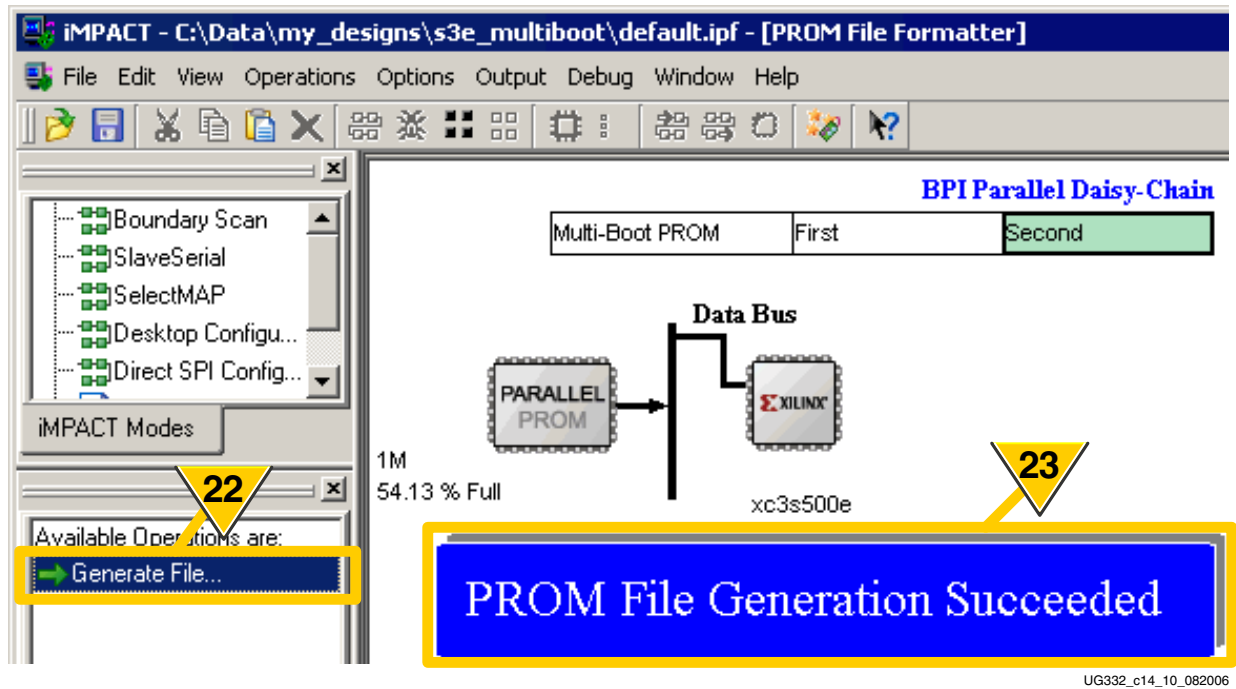

Figure 14-9: Generate the PROM File Using the Specified Parameters
22. As shown in Figure 14-9, the iMPACT software reports how much of the PROM is consumed by the FPGA configuration bitstream files. Double-click **Generate File**.